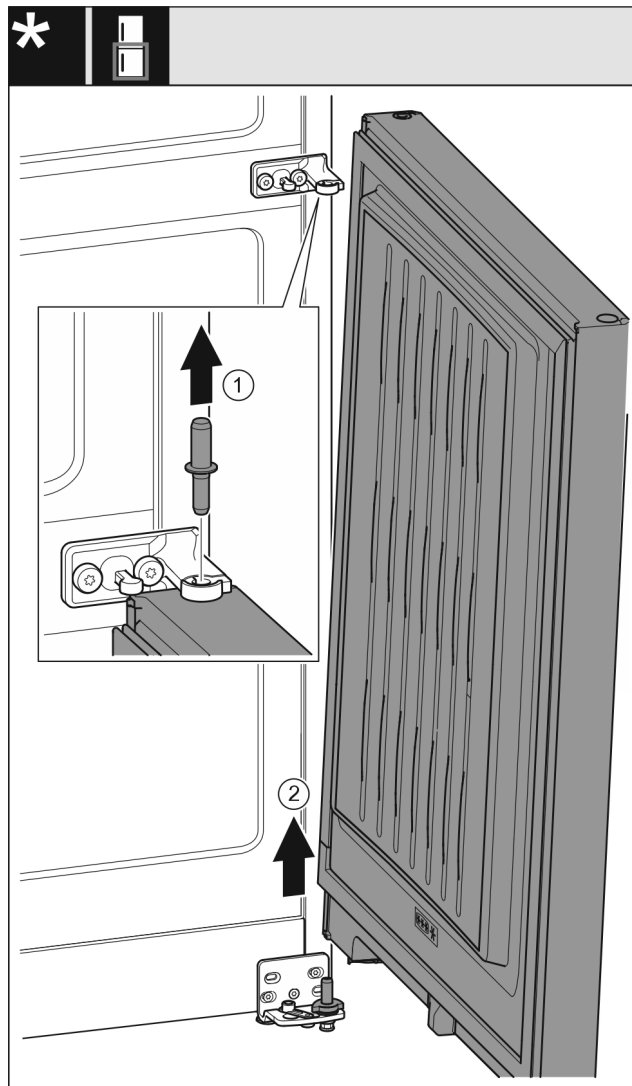

Fig. 29 Without closing damper*
- Pull out the bolt Fig. 29 (1) upwards.*
- Swing out the door Fig. 29 (2), pull it upwards and set it aside.*